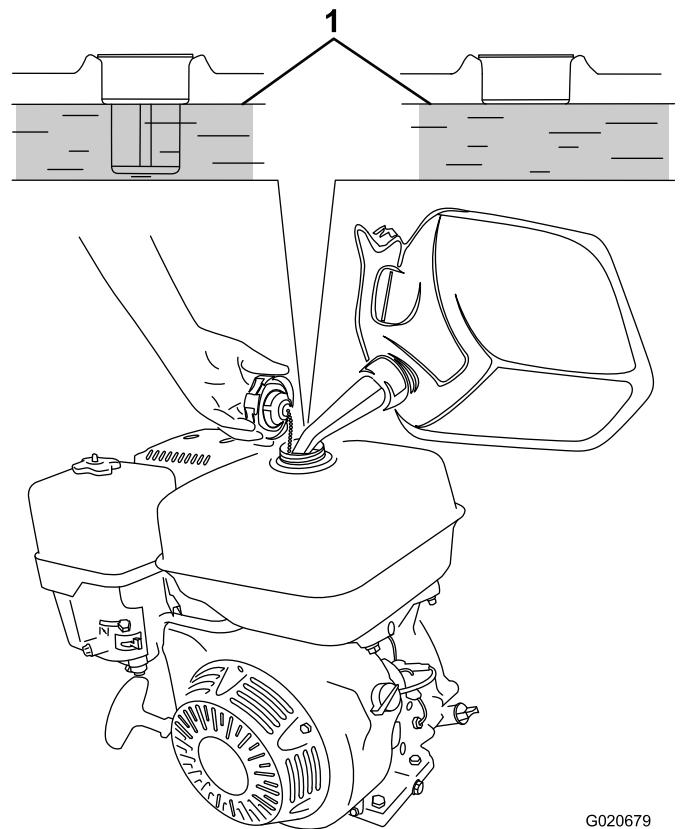

Figure 34
3. Add unleaded gasoline to the fuel tank, until the level is at the bottom of the maximum fuel level, as shown in Figure 34.